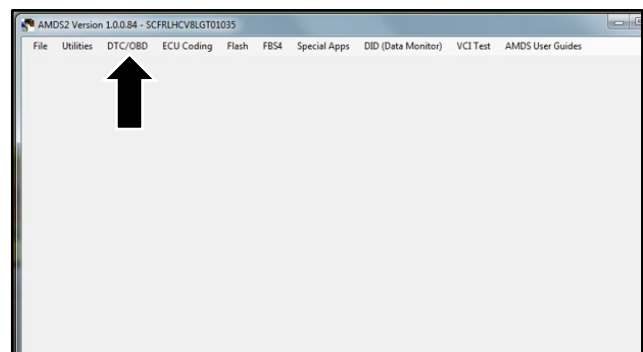

Figure 6
- In AMDS 2.0 click the "DTC/OBD" button (refer to Figure 6).